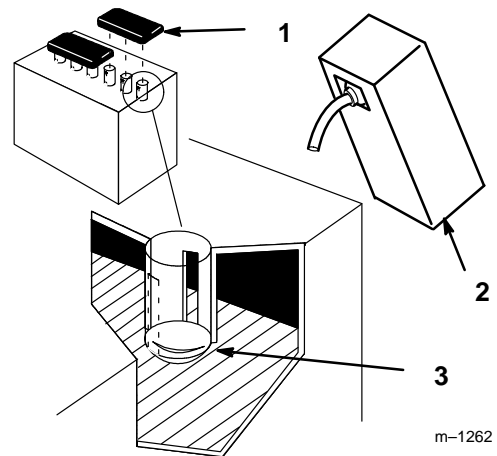

Figure 4
2. Remove filler caps from the battery. Slowly pour electrolyte into each cell until the electrolyte level is up to the lower part of the tube (Fig. 4).
5. Slowly pour electrolyte into each cell until the level is once again up to the "UPPER" line on the battery case (Fig. 4) and install covers.